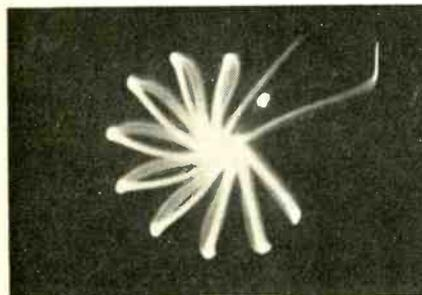

FIG. 7—RB DEMODULATOR VECTORGRAM.
**Procedure:** Adjust vectorscope controls to obtain a vectorgram display such as illustrated in Fig. 7.